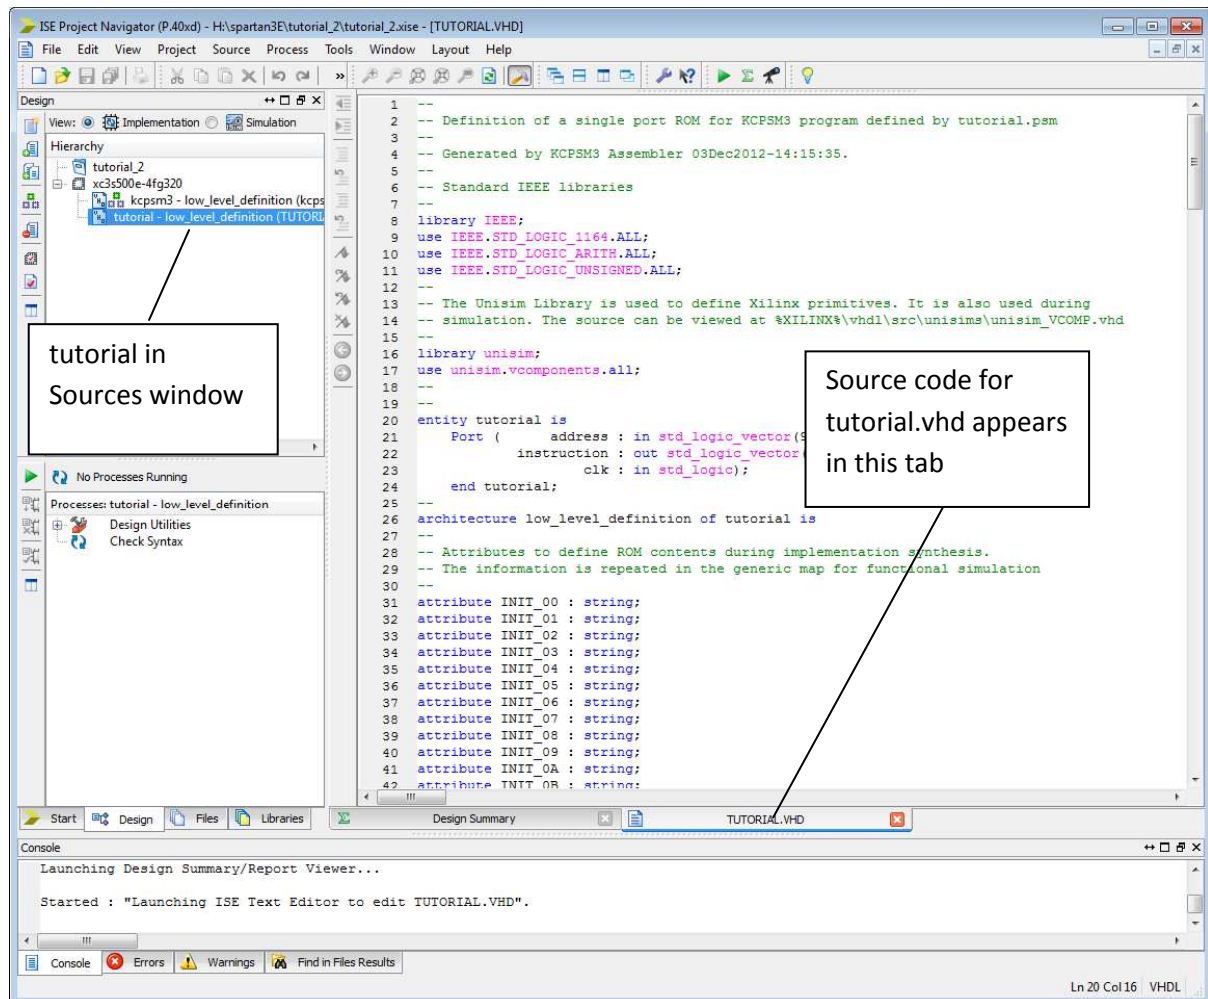

Figure 5.9: Source code for tutorial.vhd is displayed in a tab.
1. Double-click on **tutorial** in the Sources window. This will display the source code in a tab, as shown in Figure 5.9. It can be seen that Project Navigator colour codes the text of VHDL files, to make them easier to read. Comment lines, which start with “--” are displayed in green. Reserved words of the VHDL language are displayed in blue, while VHDL types are displayed in red. Everything else is left as black.